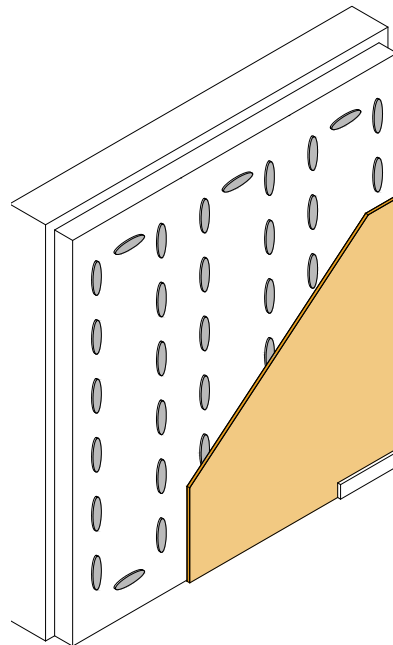

FIGURE 7: Gluing to the wall
8. After cutting the panel to size, apply dots of glue of the same size on the back. (fig. 7)